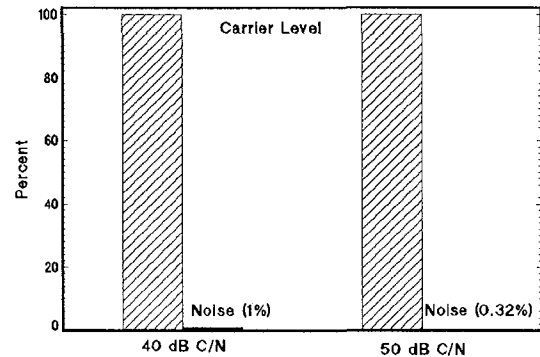

Fig 1 - Carrier vs Noise Levels
- 1) the levels at which noise is measured are very much lower than carrier levels (see Figure 1), and,
In Figure 1, note that for a 40 dB C/N, the voltage level of the noise is 1/100th of the carrier level and for 50 dB C/N it is 1/316th! In this case it doesn't even show up on the chart. One consequence of this is difficulty in getting the same kind of repeatable measurement results we are used to seeing when measuring higher level signals such as carrier levels.
A spectrum analyzer is a voltmeter which, when displaying results in units of dB(m, mV, etc.), is actually measuring a voltage that has been converted into a logarithmic value. This allows very widely differing levels, such as carrier and noise, to be easily viewed on the same display. Otherwise noise, for example, when on screen with a carrier, would be too small to see. For an example of what this would look like, see Figure 1.